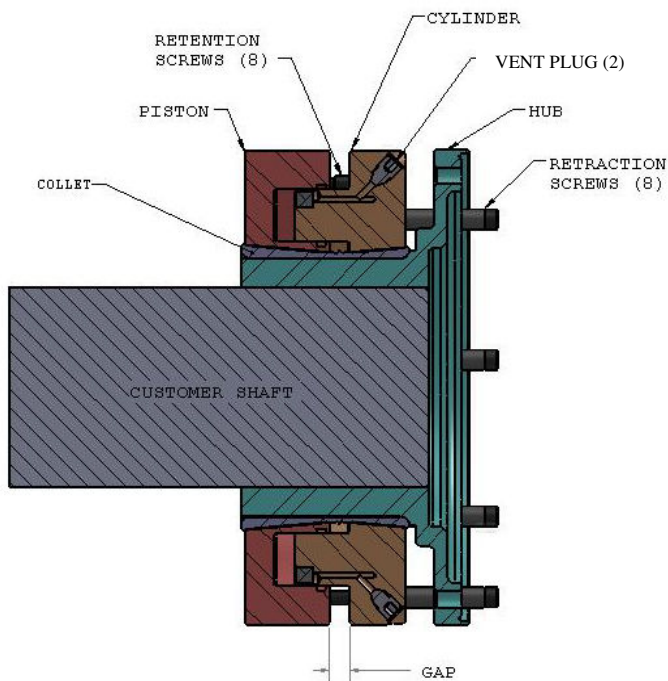
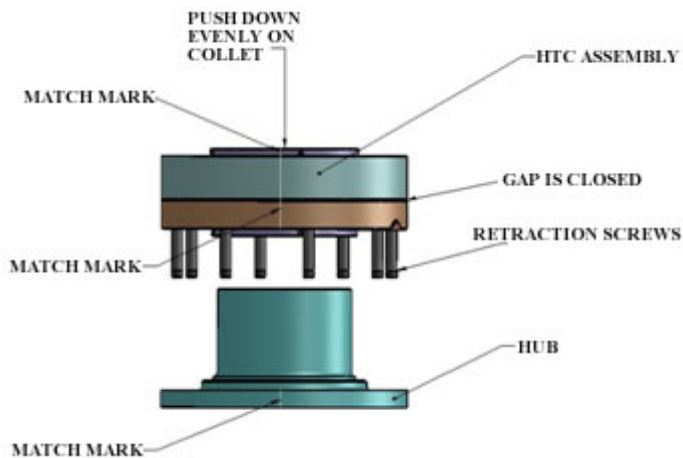
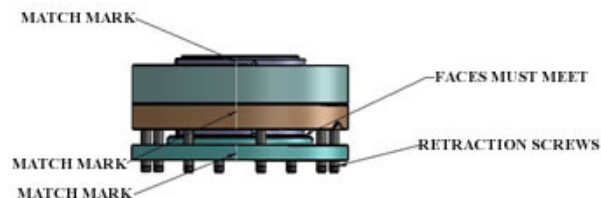
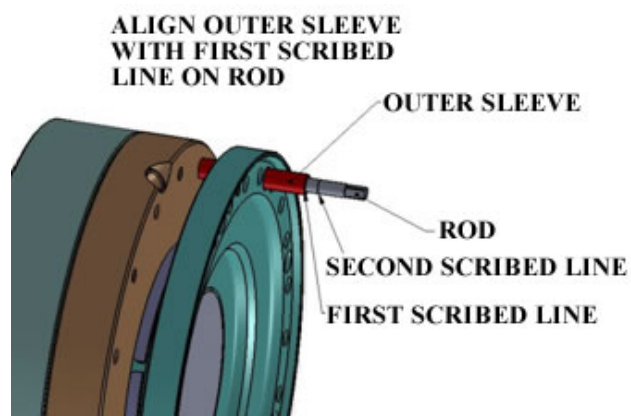

FIGURE 1a - HTC/ Hub Assembly Cross Section
Figure 2a
Figure 2b
Figure 5a - Setting Initial Grip Position
The Hydraulic Torque Coupler (HTC) connects the hub to the shaft. It accomplishes this by squeezing the hub OD with very high pressure. This pressure forces the hub to squeeze down onto the shaft producing a tight fit. Squeeze is produced when hydraulic pressure is applied. This separates the piston and cylinder of the HTC. As these rings separate, they ride up the slopes of the collet generating interference. Figure 1a shows the hub mounted on the shaft using an HTC. Prior to assembly, the hub and shaft have been machined to produce a keyless, cylindrical slip fit.
2.3.1 Remove the vent plugs (see Figure 1a). Tighten the retraction screws to 10-15 ft-lbs. Be sure the gap is closed (see Figure 2a).
2.3.2 Put the hub face down on a table. Align the match marks on the collet, Hub, and HTC to as shown in Figure 2a to ensure proper balance. Slide the HTC onto it until stop as shown in Figure 2b. Be sure to slide the HTC onto the hub evenly as there may be a slight interference fit. Always push on the collet, not on the HTC when sliding the HTC on hub.
2.3.4 Verify that the match marks are properly aligned as in Figure 2b.
2.3.6 Again verify the match marks are aligned as in Figure 2b.
2.4.11 The proper setting of the HTC is accomplished by the separation or gap between the two halves of the clamp (see Figure 1a). Two Special Gap Tools (Riverhawk PN 7500784 for the compressor-end, and 7500915 for the drive-end) has been provided to facilitate this setting. Be sure you maintain the First Grip Position from the previous step until the tool is in place. Thread the gap tool into one of the retraction screw holes until the outer sleeve aligns with the first scribe line on the rod (see Figure 5a). The tool is spring loaded so you will need to push and turn in order to start the thread.
2.4.18 Place vent plugs 2002429 in both hydraulic ports after all oil is drained (see Figure 1a).